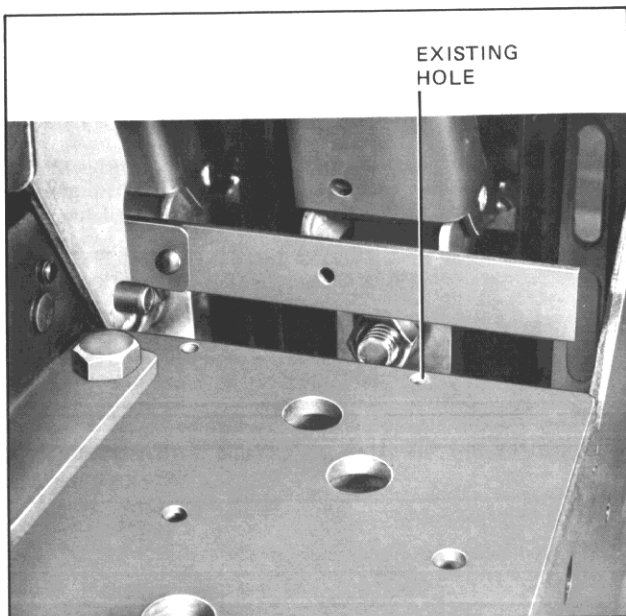
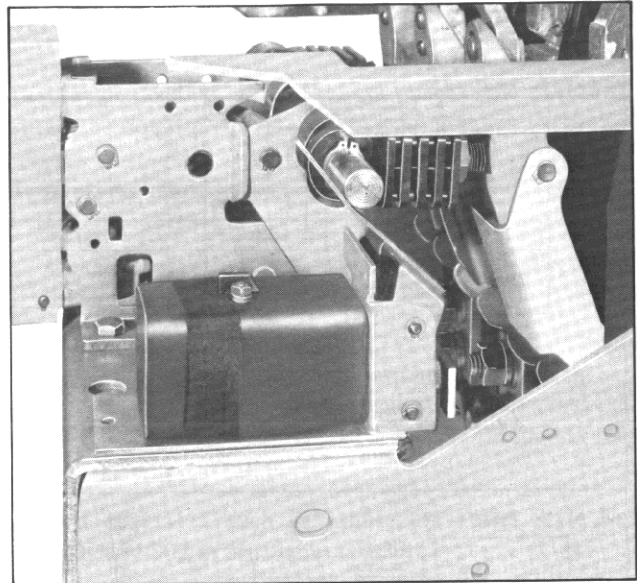

Fig. 7 Location of Existing Hole for Actuator
Fig. 8 Positioning of Actuator
1. Using the existing .25-20 tapped hole in the breaker platform, Fig. 7 and .25-20 x .5 sems screw secure the Actuator to the breaker with the right edge of the Actuator base parallel to the side of the breaker platform, Fig. 8.